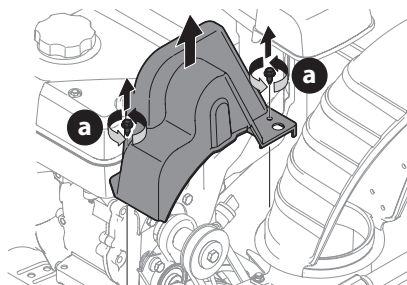

Figure 73
2. Remove plastic belt cover on front of engine by removing two self-tapping screws (a) (Figure 73).